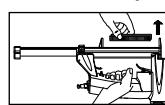

Fig.5
- Load fasteners into your tool following the instructions in this manual. (See Fig. 5)